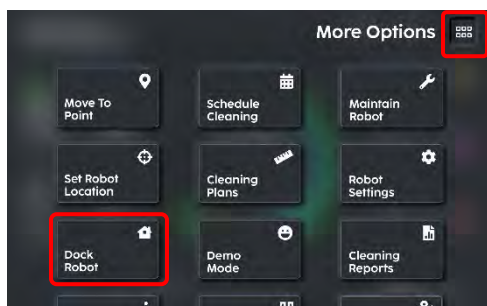

Fig. 1
2. Select 'Dock Robot' (Fig 1).